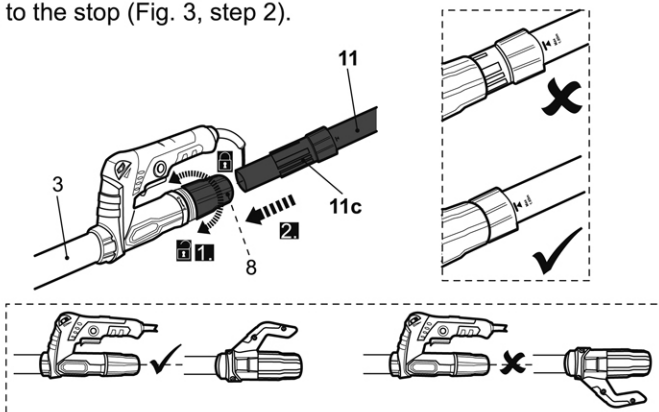

Fig. 3
1. Loosen the sleeve on the dust extraction outlet (8) of the upper shaft (3). Do not remove the sleeve from the outlet (Fig. 3, step 1).
2. Align the rear handle (11a) with the main handle (5) and insert the sleeve (11c) on the extension shaft (11) into the outlet (8) with a twist motion all the way to the stop (Fig. 3, step 2).